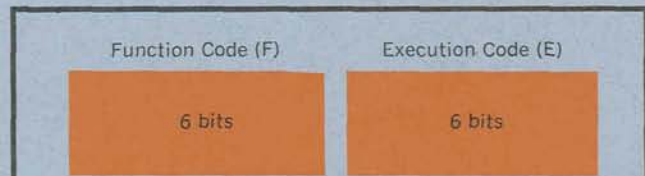

Fig. 4 160-A one-word instruction
A 160-A instruction word is divided into a 6-bit function code (F) and a 6-bit execution address (E). Shown in Fig. 4.